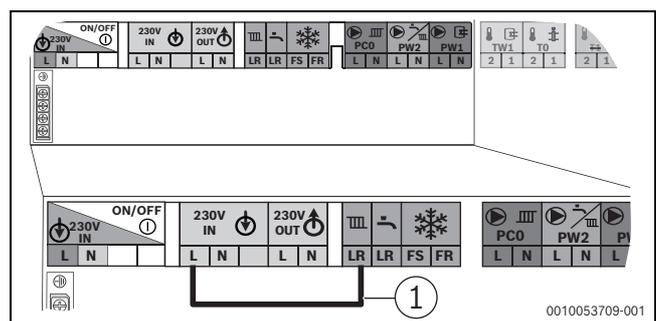

Fig. 31 Connecting the jumper to the terminals in the conventional heat generator (example representation)
- ▶ Connect the jumper between connection **L** and **LR** in the connection strip in the conventional heat generator (→Fig. 31).